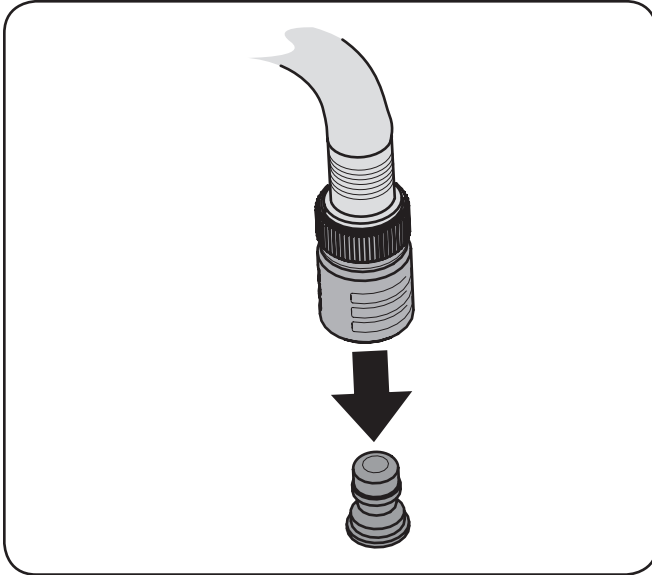

Figure 6-2
- Attach the hose coupler to the water port on your deck's surface. See Figure 6-2.